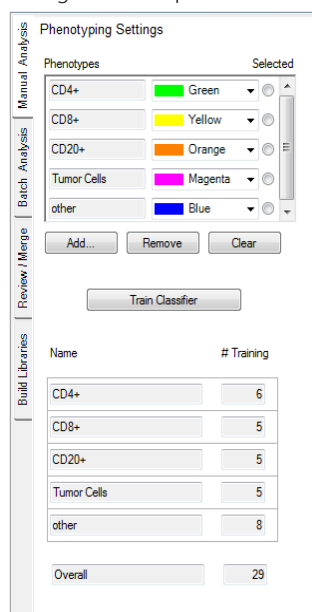

Figure 19. Phenotyping training controls.
- Only phenotype what is needed to achieve your measurement goal – don't create unnecessary phenotypes. Include an 'other' phenotype category for all remaining cell types (Figures 19, 20).